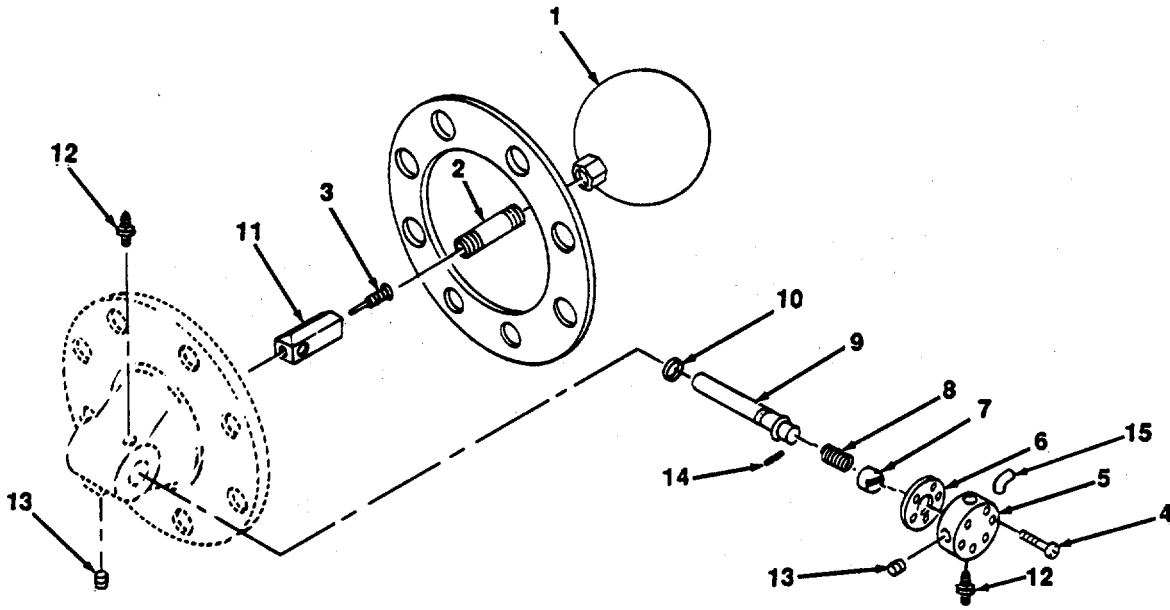

Figure 4-16. Float Control, Repair.
b. Repair. (figure 4-16)
- (1) Remove float valve (1), pipe nipple (2) and lock pin (3).
- (2) Remove six screws (4), disc guide (5), gasket (6), disc (7), helical spring (8), stem (9), packing (10) and arm float (11).
- (3) Remove two straight adapters (12), two pipe plugs (13), stem locating pin (14) and elbow (15).